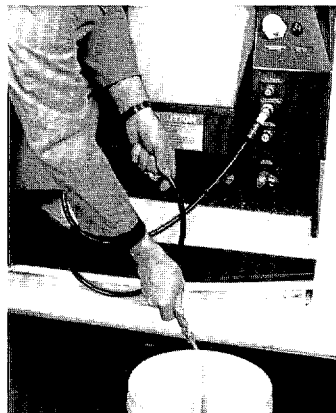

Fig. 3
4. Shut machine down. Connect short hose to high pressure quick connector and drain heat exchanger of cleaning water. (fig. 3)